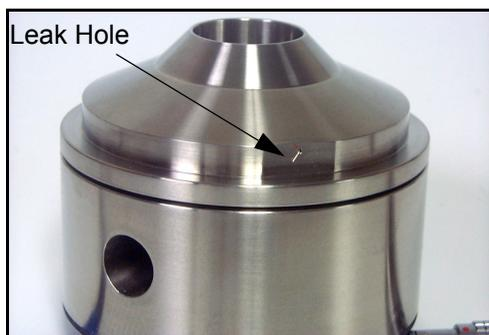

FIGURE 5-16 AEC100 with coupler, leak hole
- Step 2** Visually inspect the coupler (MAE100.1) for gouges, scratches and dents which may affect the measurement, especially around the lip which will be in contact with the test earphone. Verify that the small metallic wire in the capillary leak hole is present with no other obstructions (FIGURE 5-16).